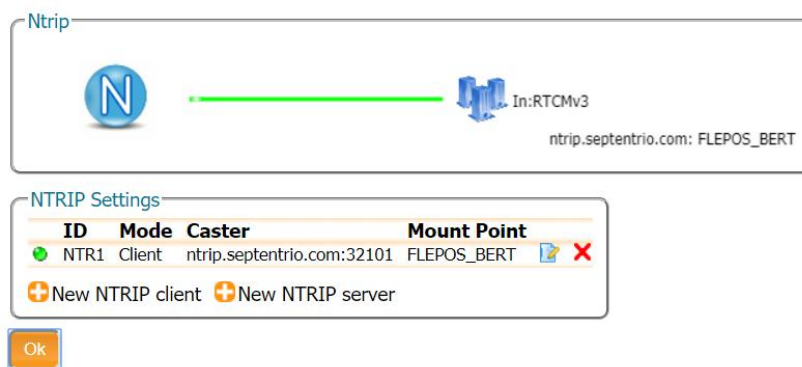

Figure 4-6: Receiving differential corrections via NTRIP
4. Click **Ok** to apply the final setting. If the configuration is correct, the graphic should show a green line to the NTRIP caster as in Figure 4-6, with details of the corr stream.